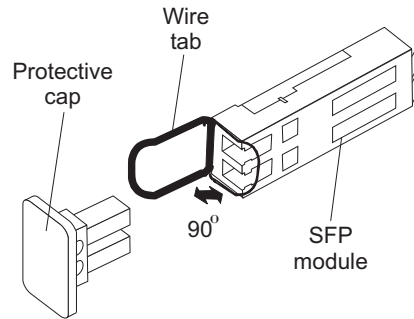

Figure 27. Installing an SFP module into the host port
4. Insert the SFP module into the host port until it clicks into place. See Figure 27 on page 53.